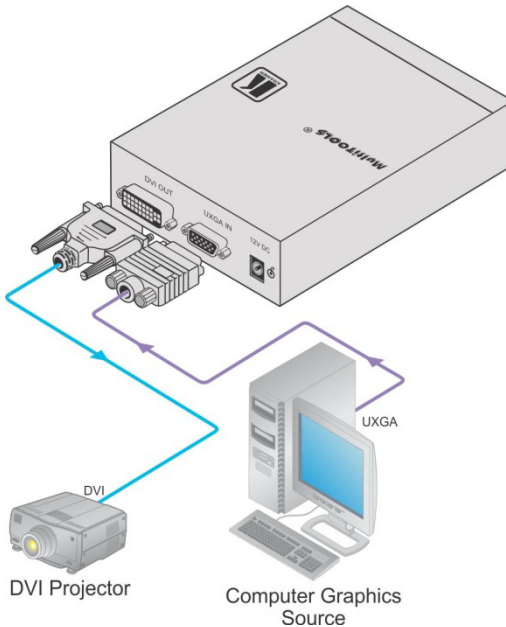

Figure 3: Connecting the FC-31xl UXGA to DVI Converter
To connect your **FC-31xl UXGA to DVI Converter**, as the example in Figure 3 illustrates, do the following:
3. Connect the 12V DC power adapter (wall transformer) to the 12V DC socket and connect the transformer to the mains electricity (not shown in Figure 3).